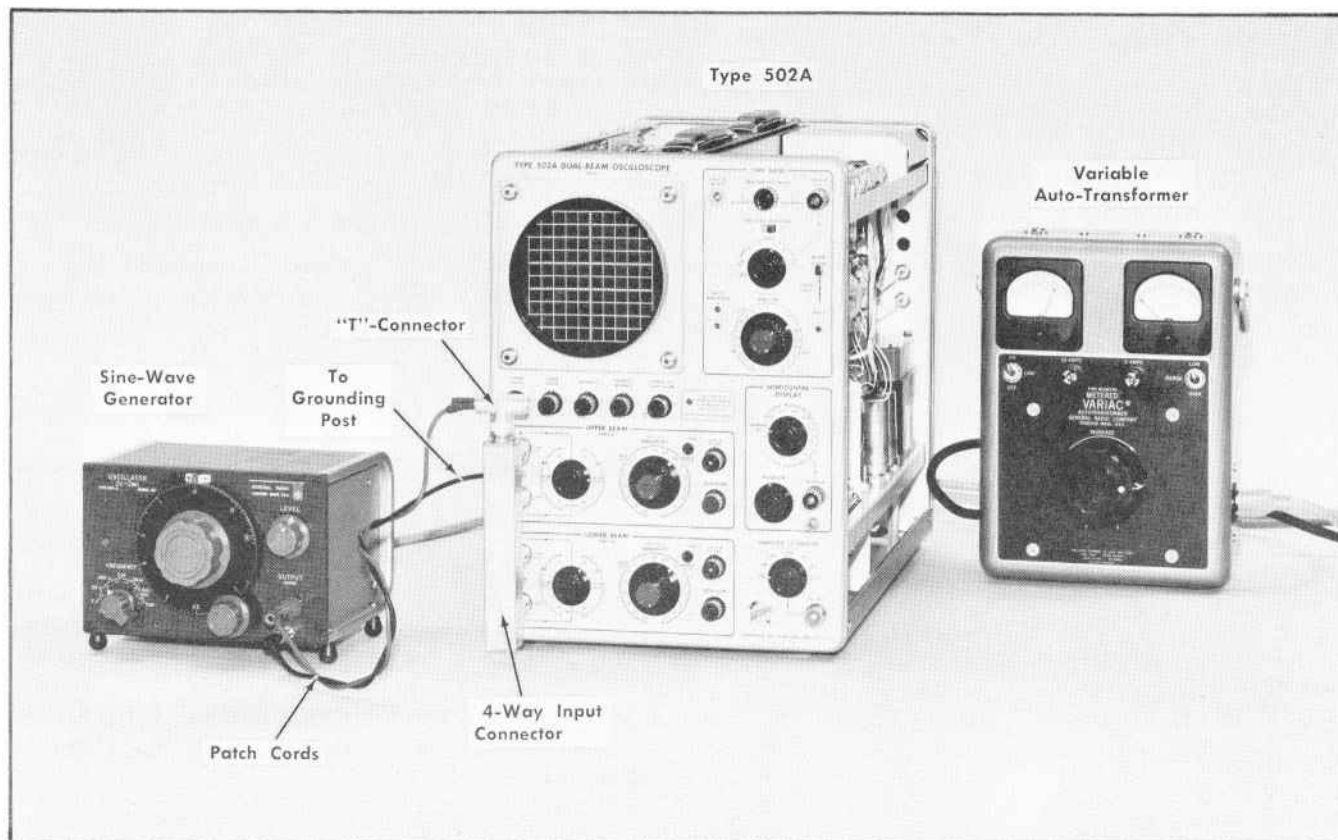

Fig. 6-20. Test equipment setup for checking and adjusting Common-Mode dynamic range (step 26).
- c. Average random noise level should not exceed 3 mm. (See Fig. 6-20.)
- Connect the equipment as shown in Fig. 6-20.